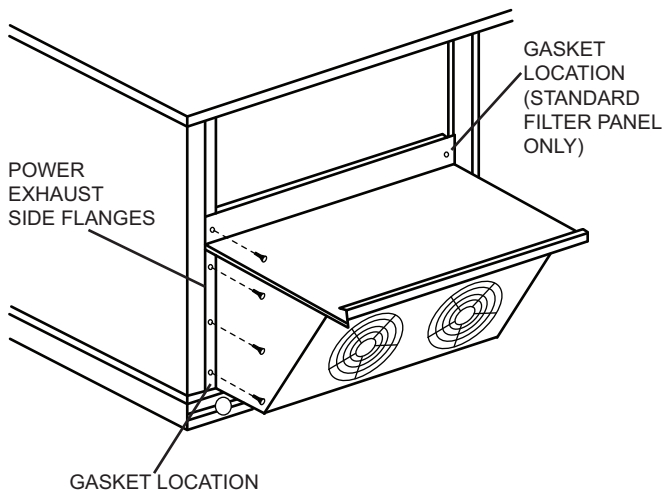

Fig. 14 — Power Exhaust Installation
2. Attach the sealing angle to the top of the power exhaust hood using the screws provided. Refer to Fig. 14 and 15. Note that the gasketing flange will be facing out.
6. Remove the hinged door and drill four (4) $1\frac{1}{64}$ in. holes where the marks are.